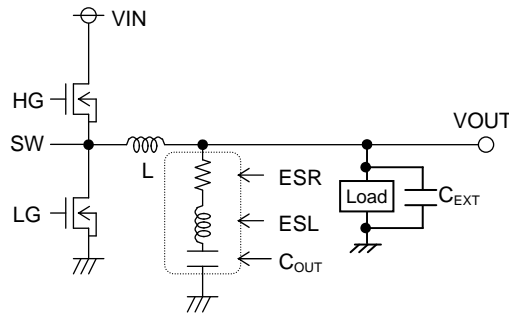

Figure 26. Output Capacitor
Also, give consideration to the conditions in formula (6) below for output capacitance, bearing in mind that output rise time must be established within the fixed soft start time. As output capacitance, bypass capacitor will be also connected to output load side (C_{EXT}, Figure 26). Please set the over current detection value with regards to these capacitance.